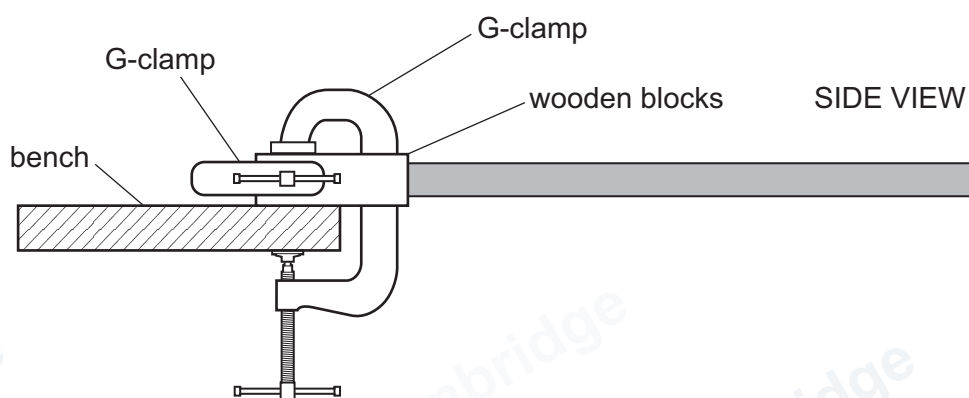

Figure 2.2
• Clamp the wooden blocks to the bench as shown in Figure 2.2.